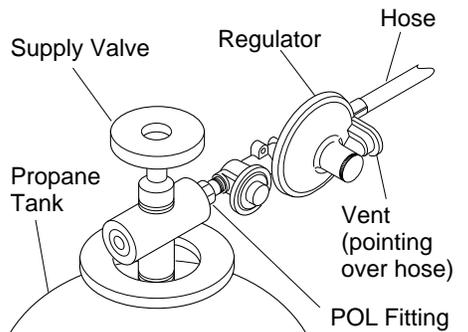

Figure 4 - Regulator With Vent Pointing Over Hose
2. Connect POL fitting on hose/regulator assembly to propane tank(s). Turn POL fitting counterclockwise into threads on tank. Tighten firmly using wrench. Tighten regulator with vent pointing over the hose (see Figure 4).